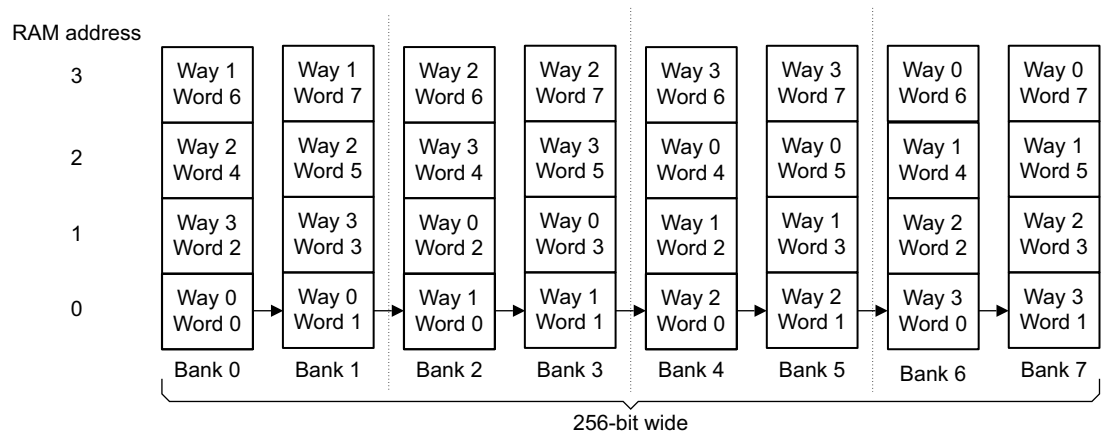

Figure 8-3 Nonsequential read operation performed with one RAM access.
- Perform a cache look-up with one RAM access, all banks selected together. This is done for nonsequential read operations. Figure 8-3 shows this.
Figure 8-3 shows a cache look-up being performed on all banks with one RAM access.